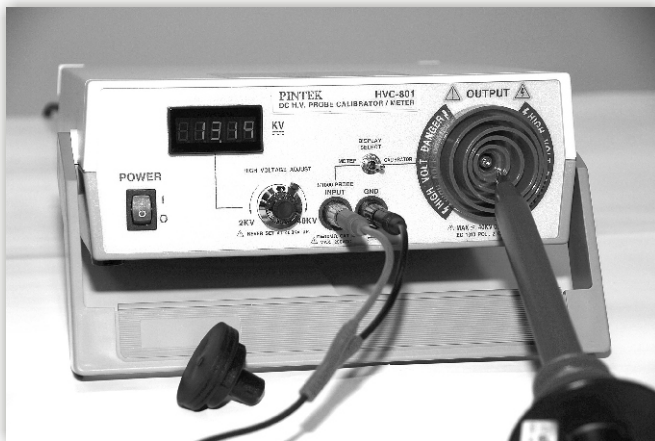

Fig.3
- (1) Do not use the instrument in a damp environment or where there is risk of explosion.
- (2) Examine the instrument make sure it is clean and dry. If in doubt, wipe with a clean dry, lint-free cloth.
- (3) Look at the condition of the floor. It must be dry, clean and free of oil.
- (4) Only use this instrument as the calibrator of your High Voltage Probe or The DMM of your High Voltage Probe.
- (5) Verify that you are able to remain clear, dry and avoid contact with any exposed metal and /or other conductive material.
- (6) When use as High Voltage Probe Meter. Be sure of the common lead (alligator clip) of the High Voltage Probe has connected to a good earth ground before taking any measurements.
- (7) For the calibration Voltage Higher than 10kV. Connect the probe to the instrument as Fig.3 and (set the output voltage at lower than 10kV then) connect the tip of the probe to the out put terminal then turn the voltage. Adjustment the Output Voltage Adjustment Switch till the voltage you want.
- (8) Always keep the output voltage of the instrument at lower than 10kV before you connect the probe tip or any other conductive material to the output terminal of the instrument.
- (9) Do not pull out the High Voltage Output Terminal Cover if not necessary.
- (10) Do not touch the High Voltage Power Output terminal within 10 sec after power off.
### A. HIGH Voltage Probe Calibrator: (Refer to Fig.3)